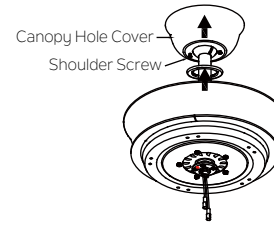

Fig. 17
Step 3. Securely attach and tighten the canopy hole cover over the shoulder screws in the mounting bracket utilizing the keyslot twist-lock feature. (Fig. 17)